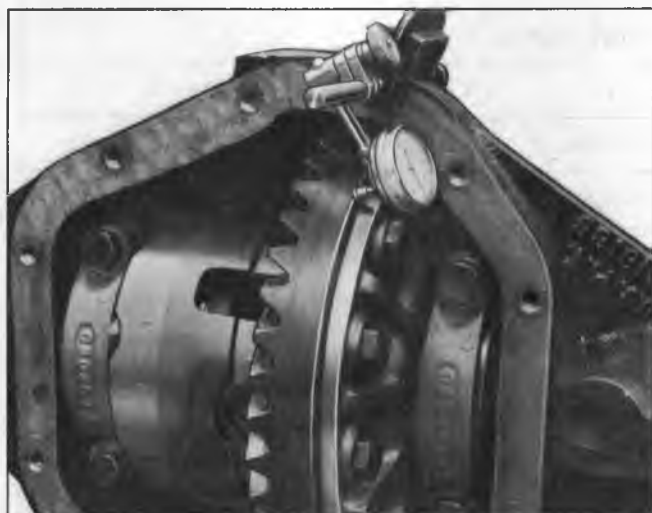

Fig. 6D--Checking Runout
7. Install dial indicator on carrier with indicator button contacting back of ring gear (Fig. 6D). Rotate differential case and check for runout. If runout is greater than .002", the assembly should be removed and the ring gear removed from the case. Again install differential case and check runout at differential case flange.
2. Install dial indicator on carrier with indicator button contacting back of ring gear (Fig. 6D).